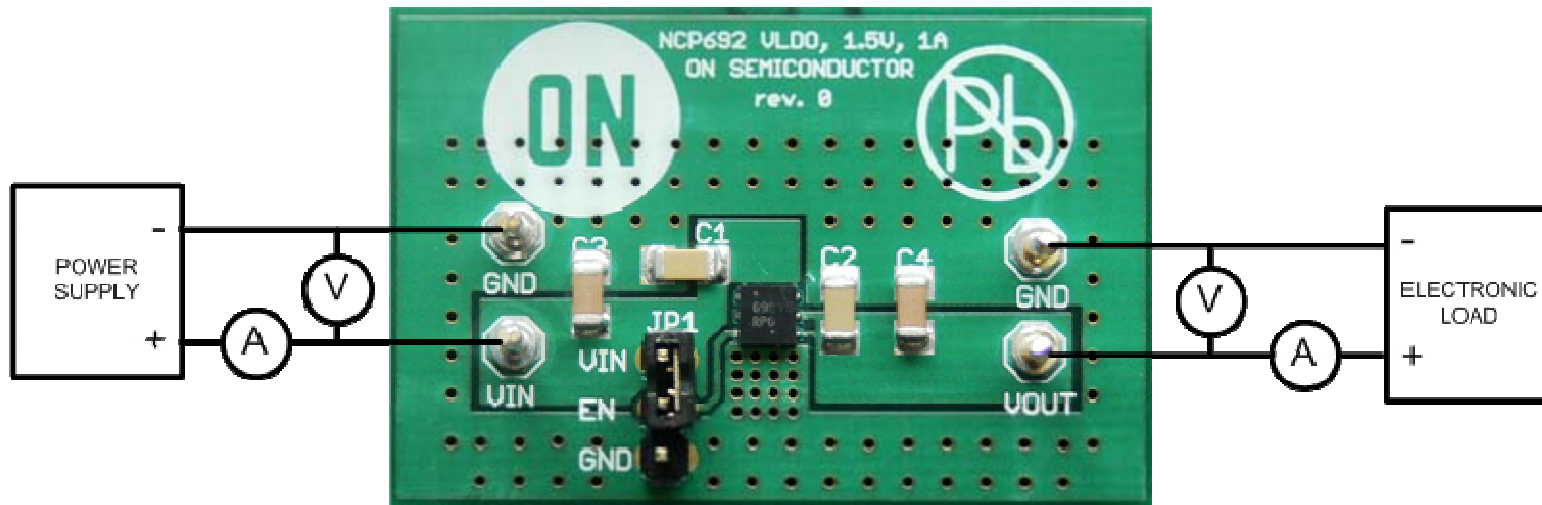

Figure 1
1. Connect the test setup as shown on Figure 1.
2. Place the Jumper JP1 to connect VIN and EN pins (Figure 1).